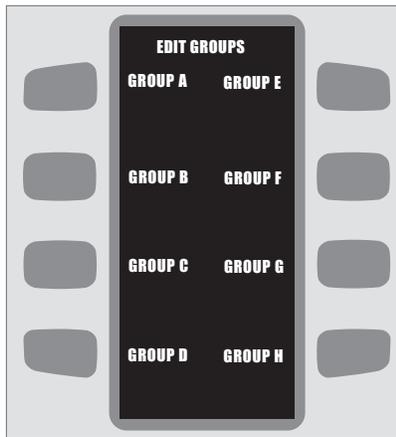

FIGURE 7: Edit Groups
The NGC (Tornado) oven control has 128 unique Recipes available for the operator. The display shows two (2) pages each with eight (8) Recipe Groups. Each Recipe Group contains eight (8) Subgroups or Recipes. See Figures 7 and 8.